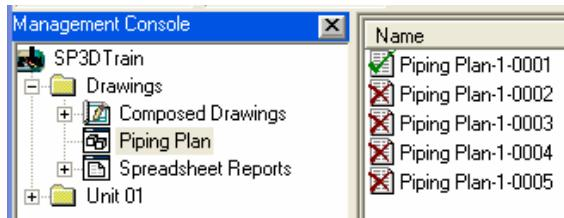

Figure 41: Updated Drawing in Detail View
3. Right-click the first drawing, and click **Update Now** to update the drawing. Without a Batch Server configured to update drawings, this process could take 10 seconds to 3 minutes on the client machine and displays the drawing in the detail view, as shown in Figure 41.